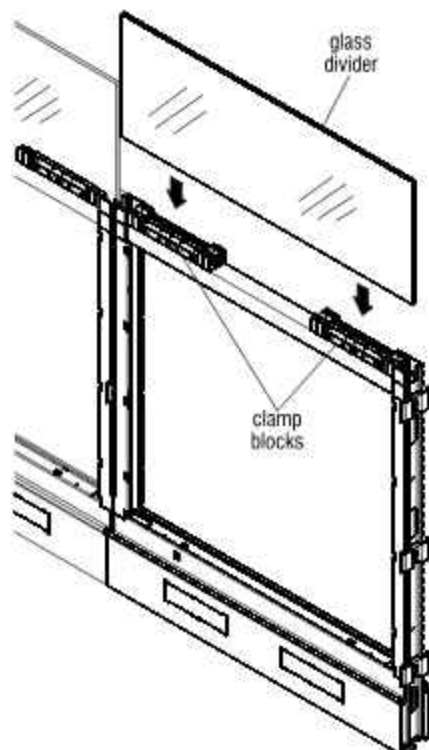

Figure 4 - Install & Tighten Glass
7. Carefully insert the glass divider into the clamp blocks. Center the glass on the panel from end-to-end and tighten the six Phillips screws (three screws per clamp block) to secure the glass with the clamp blocks. If glass divider is being installed on a panel frame with a top power infeed, the divider will need to be centered between the infeed top cap and the opposite panel end. Do not over-tighten the screws. Over-tightening can damage the glass. Lastly, tighten the nuts below the panel frame. Do not over-tighten. Over tightening can cause damage to the block (Figures 4 & 5).